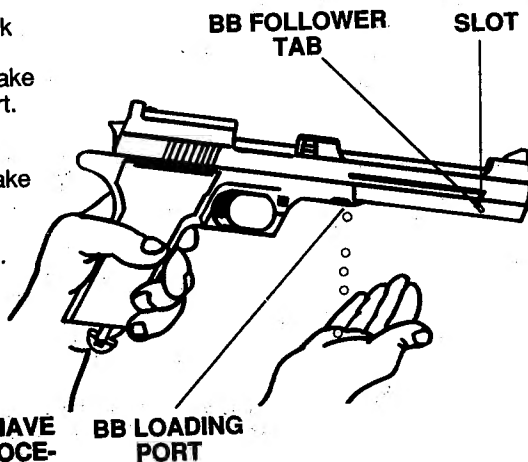

FIG. 5
- Point the barrel downward slightly and shake it. The BBs will drop out of the loading port. (Fig. 5)